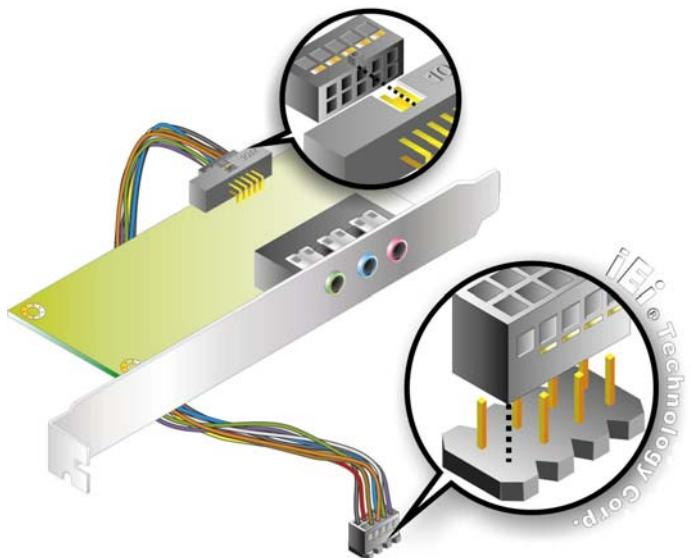

Figure 5-18: 5.1 Channel Audio Kit
Step 3: Align pin 1. Align pin 1 on the onboard connector with pin 1 on the audio kit cable connector. Pin 1 on the audio kit cable connector is indicated with a white dot. See **Figure 5-18**.
Step 3: Align pin 1. Align pin 1 on the onboard connector with pin 1 on the audio kit cable connector. Pin 1 on the audio kit cable connector is indicated with a white dot. See Figure 5-18.